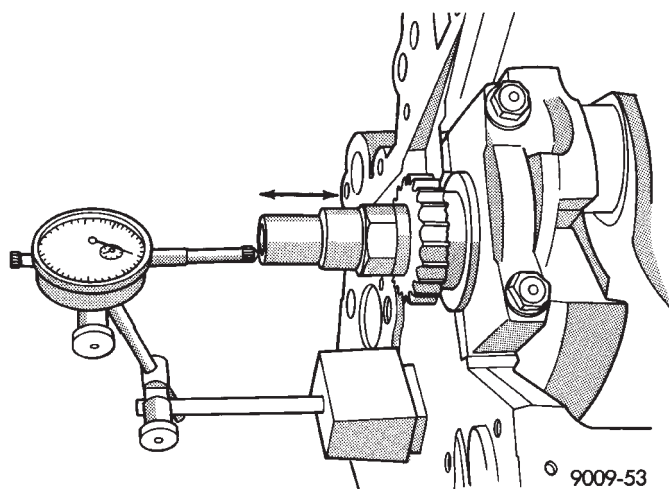

Fig. 9 Checking Crankshaft End Play
- (1) Mount a dial indicator to front of engine, locating probe on nose of crankshaft (Fig. 9).
- (2) Move crankshaft all the way to the rear of its travel.
- (3) Zero the dial indicator.